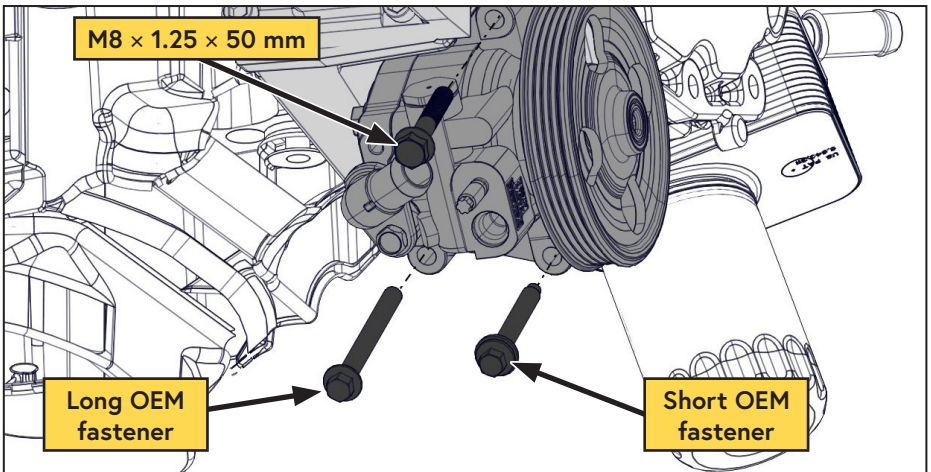

Figure 26 — Secure the power steering pump
- Mount the power steering pump on the VMAC main bracket using the supplied M8 × 1.25 × 50 mm fastener and the 2 OEM fasteners retained earlier (Figure 26).